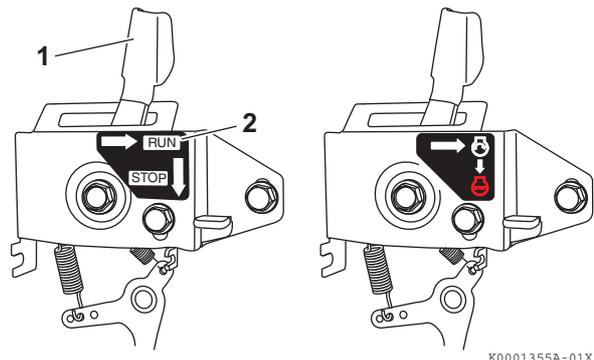

Figure 4
2. If your engine speed control is similar to **Figure 4** slide the engine speed control lever (**Figure 4, (1)**) to the RUN position (**Figure 4, (2)**).